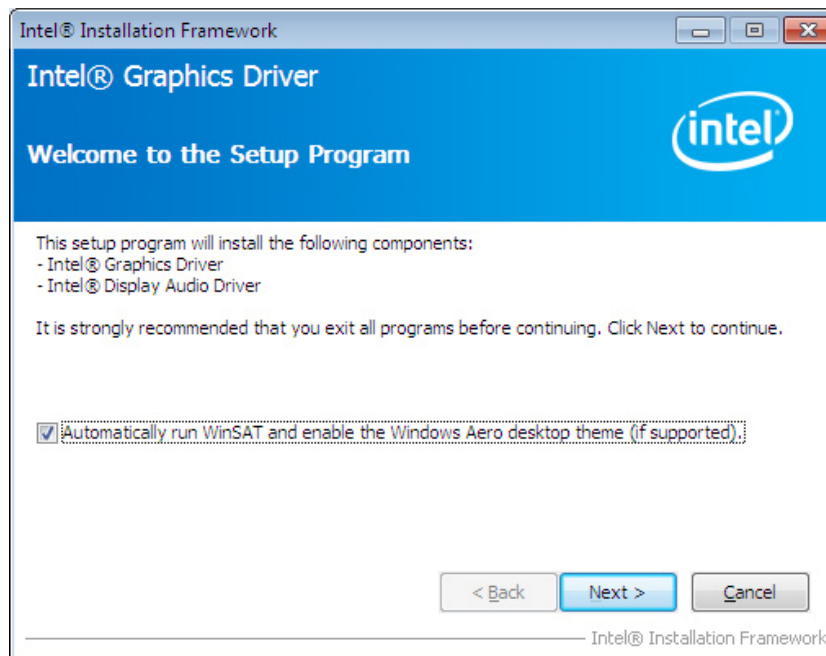

Figure 6-8: Graphics Driver Welcome Screen
Step 7: The **Welcome Screen** in Figure 6-8 appears. Click **Next** to continue.